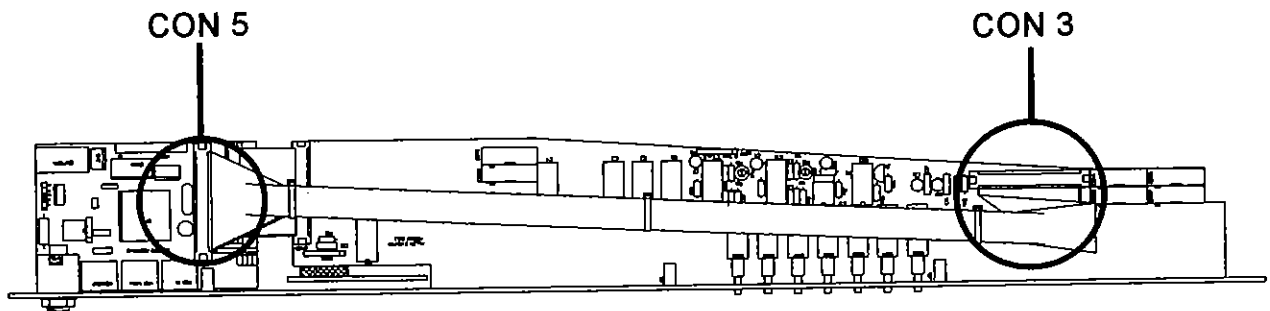

Fig. 16.
1. Plug the other end of the VCA harness, that was connected to the Keyboard PCB, into connector CON5 on the V-Micro PCB, as shown. *see Fig. 16.*